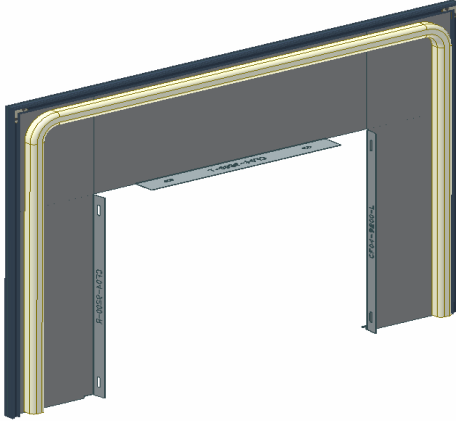

FIGURE 11c: INSULATION (installed)
4. The installer should now install the fiberglass insulation on the back face of the shroud system as shown in FIGURE 11c and 11d. One roll of insulation is required for a standard, CF04-9200, shroud and two rolls of insulation are required for an oversized, CF04-9210, shroud. Fiberglass insulation serves to ‘seal’ the shroud panels against the face of the fireplace opening. Sealing the shroud system minimizes draft and reduces vibration noise during operation of the stove. Install the fiberglass insulation by removing the paper backing. Install the ‘sticky’ side of the insulation against the back face of the shroud panels. Install the insulation in such a manner that will ensure the insulation will meet the face of the fireplace hearth wall and not be hanging out in the opening when the Crossfire is slid back into its final location. For hearths made of stone or have irregular surfaces, it will be necessary to obtain additional fiberglass insulation in order to ensure a proper seal between the hearth and the Crossfire shroud panels. Very irregular surfaces with large voids may require a masonry fill to ensure a proper seal between the Crossfire shroud panels. Insulation installation is now complete and the installer can prepare the trim (black standard, gold optional) for installation.